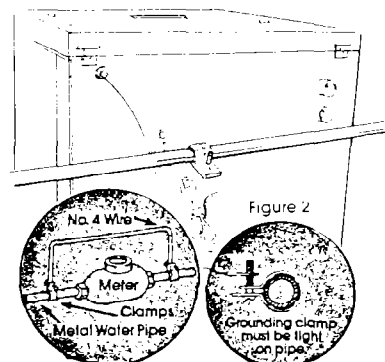

Figure 2
For added personal safety, use a clamp and green-colored copper grounding wire. Connect the grounding wire (#18 minimum) from the external grounding connector on the back of the appliance to a grounded water pipe.* See Figure 2.
* Grounded cold water pipe must have metal continuity to electrical ground and not be interrupted by plastic, rubber or other electrical insulating connectors such as hoses, fittings, washer or gaskets (including water meter or pump). Any electrical insulating connector should be jumped as shown in Figure 2 with a length of No. 4 wire securely clamped to bare metal at both ends.
Do not ground to a gas supply pipe or hot water pipe. Do not connect to electrical supply until appliance is permanently grounded. See Figure 2.